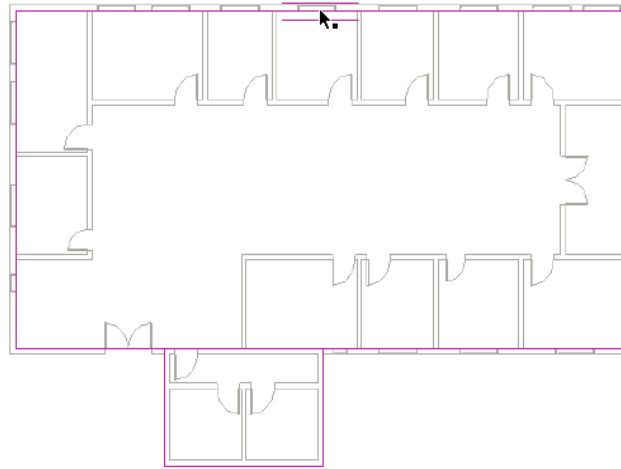

Figure 3-88 The floor boundary sketched using the **Pick Walls** tool
- g. Create the floor using the **Floor** tool, refer to Figures 3-88 through 3-90.
6. Repeat the procedure followed in steps 3 and 4 and sketch the floor boundary at other walls, as shown in Figure 3-88.